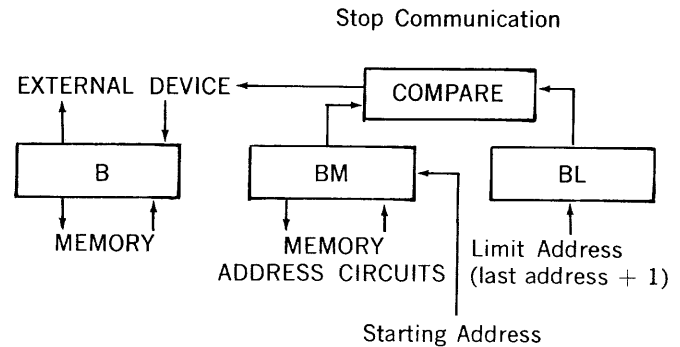

Figure 4-3. Input/Output Channel Block Diagram
Input/Output Channel. The standard mode of input/output data flow for the 6020 is by sequentially transmitted six-bit biocatal or alphanumeric characters. These characters are assembled (or disassembled) into 24-bit computer words by an input/output Assembly Register (B), one of which is employed for each input/output channel. In addition, each input/output channel is provided with two 15-bit address registers. These registers are called Buffer Memory Address Register (BM) and Buffer Limit Address Register (BL). (See Figure 4-3, Input/Output Channel Block Diagram.) BM and BL define the beginning and limit locations in memory into (from) which a block of data is to be transferred via the particular input/output channel.